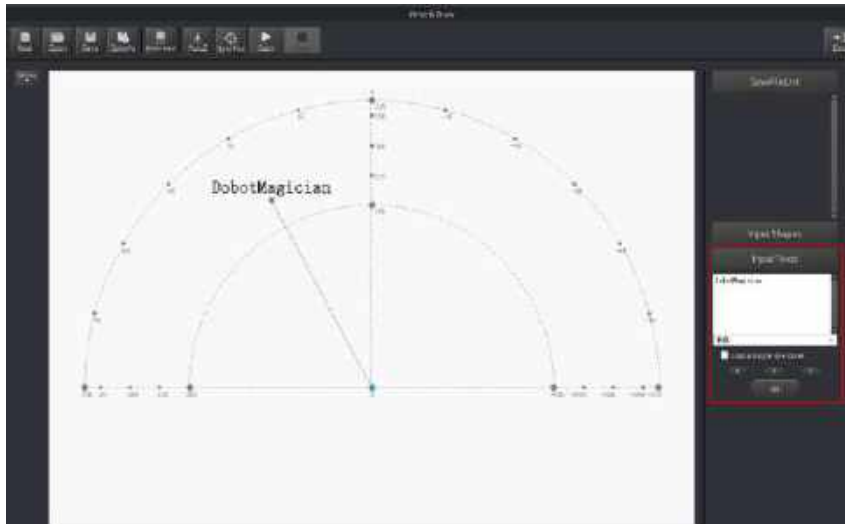

Figure 5.63 Input text
- Click **Input Texts** on the **Write & Draw** page to input texts, and set its style, and then click **OK** to display the text on the annular area, as shown in Figure 5.63.